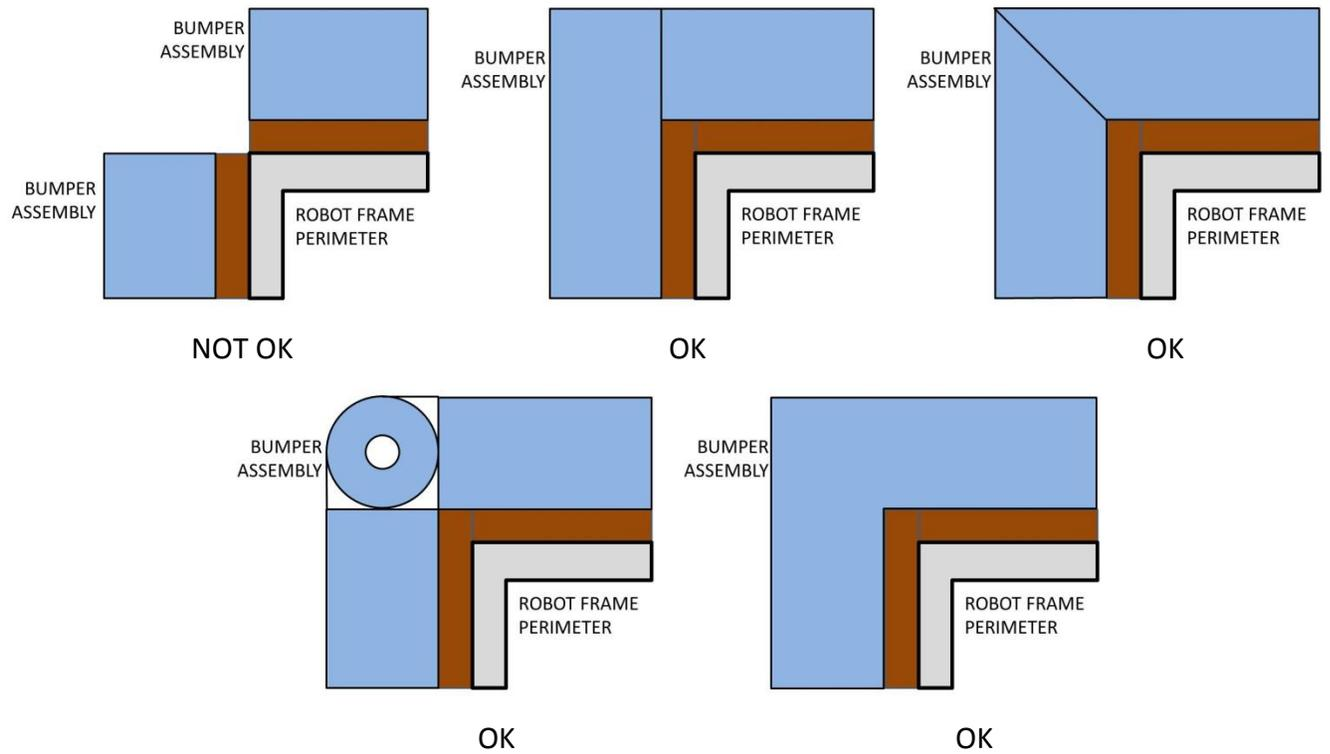

Figure 4-6
- [R31] Joints between Bumpers and the radial projections of corners must be filled with pool noodle material. Examples of implementation are shown in Figure 4-6.